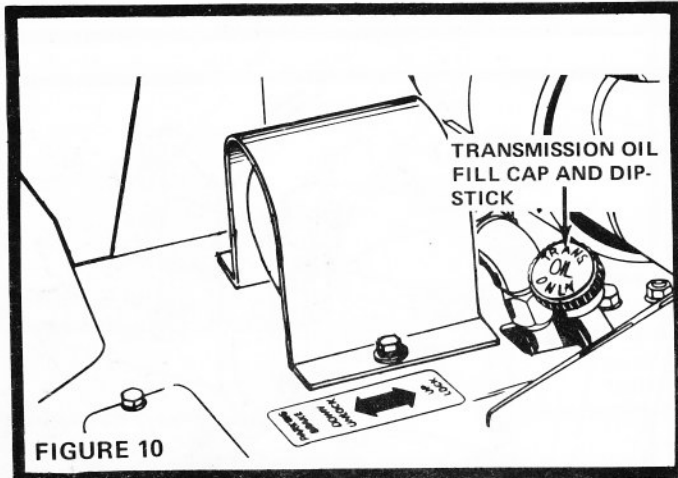
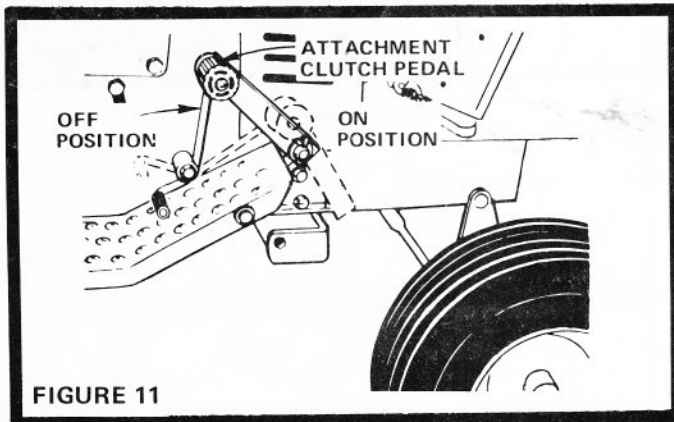
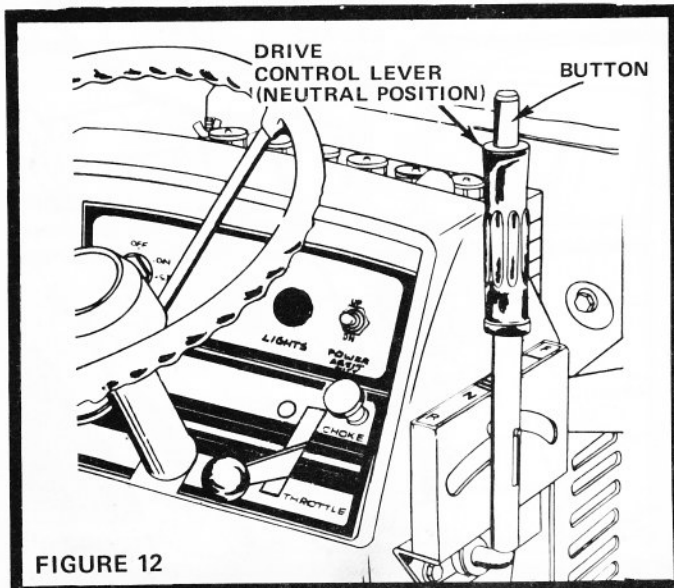

FIGURE 10
FIGURE 11
FIGURE 12
THIS TRACTOR IS EQUIPPED WITH SAFETY SWITCHES TO PREVENT STARTING OF THE TRACTOR ENGINE WHILE THE ATTACHMENT CLUTCH PEDAL IS IN THE "ON" POSITION (FIG. 11) AND THE DRIVE CONTROL LEVER IS IN "F" FORWARD OR "R" REVERSE POSITIONS (FIG. 12).
2. Check Hydrostatic Transmission Fluid Level (Fig. 10) with engine running (See Starting Engine Section) and Drive Control Lever (Fig. 12) in neutral position. Add fluid if necessary to bring level up to "SAFE" mark on dipstick. NOTE: Cap and Dipstick must be screwed in tight to check fluid level. Do not fill above "SAFE" mark on dipstick. Use automatic transmission fluid "TYPE F" only.
1. Place Attachment Clutch Pedal in "OFF" position (Fig. 11).
2. Move Drive Control Lever to "N" neutral position (Fig. 12).
3. Press Button (Fig. 12) on Drive Control Lever and slowly move Lever forward and tractor will begin to move.